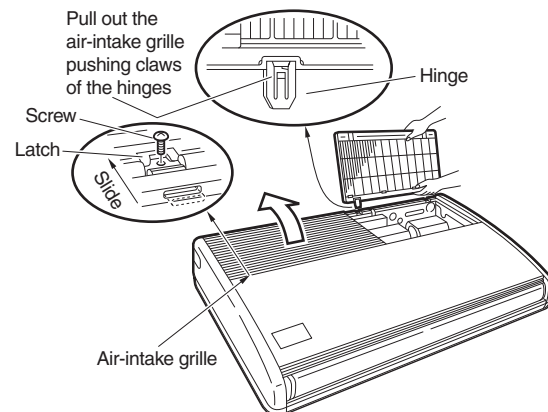
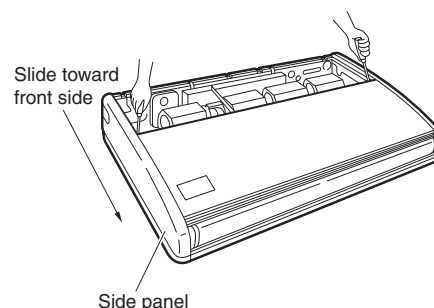

Fig. 3-135
Fig. 3-136
- (5) Before suspending the indoor unit, remove the 2 or 3 screws on the latch of the air-intake grilles, open the grilles, and remove them by pushing the claws of the hinges as shown in Fig. 3-135. Then remove both side panels sliding them along the unit toward the front after removing the 2 attachment screws. (Fig. 3-136)